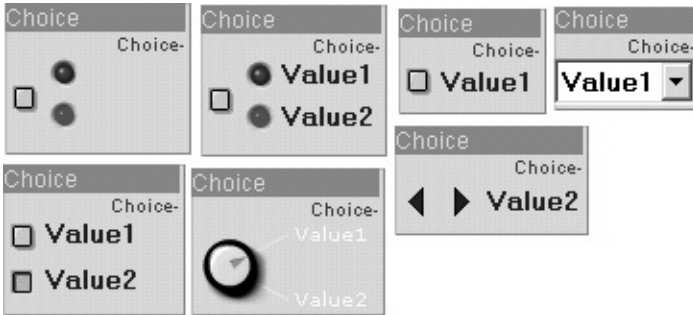

Figure 2.16: A List Entry module's default visuals look like this
- ❖ A List Entry module comes in many guises, including Combo Box, Led Stack, Labeled Led Stack, Selector, Button Stack, Rotary Switch and Up/Down Selector. Figure 2.16 gives you a glimpse of the default visuals. Bear in mind that you can skin all these selectors.